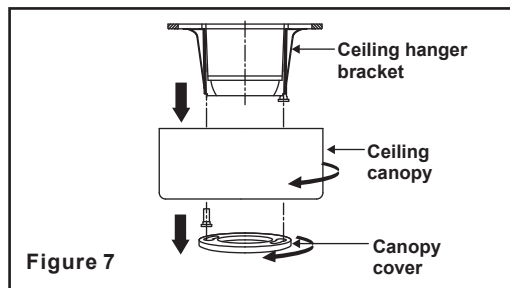
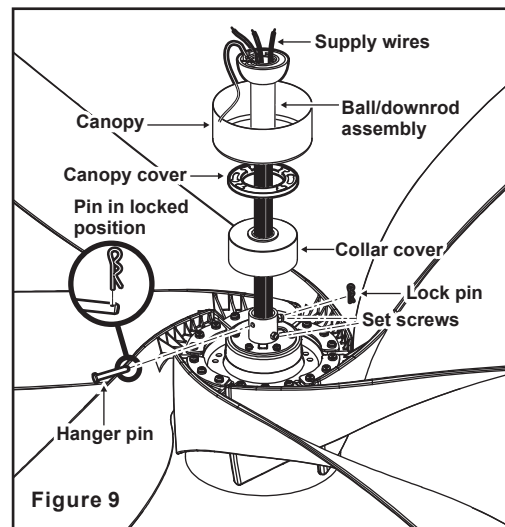

Figure 7
Figure 9
Step 1. Remove the decorative canopy bottom cover from the canopy by turning the cover counter clockwise.(Fig. 7)
Step 2. Remove the mounting bracket from the canopy by removing 1 of 2 screws from the bottom of the mounting bracket and loosening the other one a half turn from the screw head. Next, turn the canopy counter clockwise to remove the mounting bracket from the canopy. (Fig. 7)
Step 5. Remove the hanger pin, lock pin and set screws from the top of the motor assembly. (Fig. 9)
Step 6. Route the wires exiting from the top of the fan motor through the collar cover, canopy cover, canopy and then through the ball / downrod. (Fig. 9)
Step 7. Align the holes at the bottom of the downrod with the holes in the collar on top of the motor housing (Fig. 9). Carefully insert the hanger pin through the holes in the collar and downrod. Be careful not to jam the pin against the wiring inside the downrod. Insert the locking pin through the hole near the end of the hanger pin until it snaps into its locked position, as noted in the circle inset of Fig. 7.
Step 8. Tighten two set screws on top of the fan motor firmly. (Fig. 9)